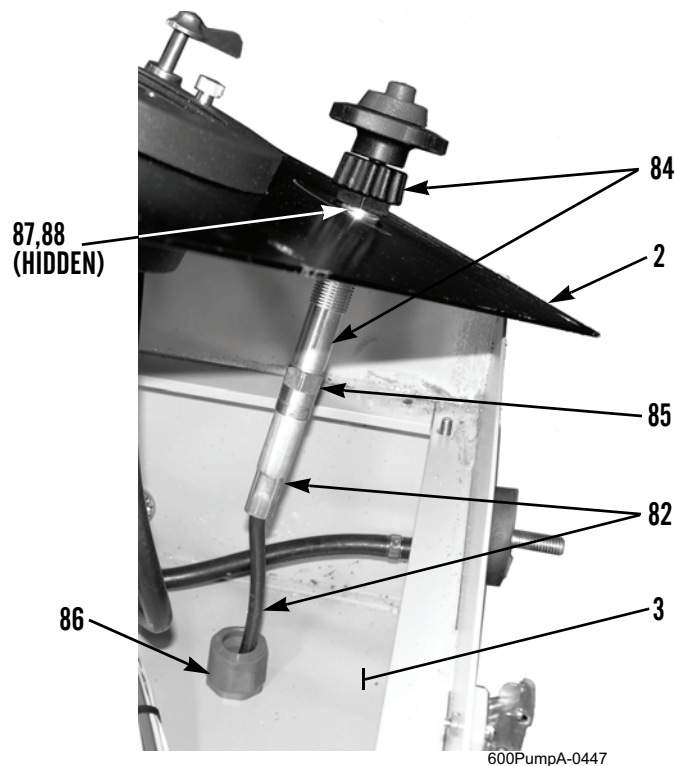

Figure 26. Throttle Control Assembly.
2. While holding throttle control (Figure 26, Item 84) with a wrench, loosen nut (Figure 26, Item 85) and disconnect throttle control cable (Figure 26, Item 82) from throttle control.
3. Pull throttle control cable (Figure 26, Item 82) from control panel box (Figure 26, Item 3).
4. Remove nut (Figure 26, Item 87), lockwasher (Figure 26, Item 88), and throttle control (Figure 26, Item 84) from panel (Figure 26, Item 2). Discard lockwasher.
5. If damaged, remove grommet (Figure 26, Item 86) from control panel box (Figure 26, Item 3).
1. If removed, install grommet (Figure 26, Item 86) on control panel box (Figure 26, Item 3).
2. Install throttle control (Figure 26, Item 84) on panel (Figure 26, Item 2) with new lockwasher (Figure 26, Item 88) and nut (Figure 26, Item 87).
3. Feed throttle control cable (Figure 26, Item 82) through grommet (Figure 26, Item 86) and control panel box (Figure 26, Item 3).
4. Connect throttle control cable (Figure 26, Item 82) to throttle control (Figure 26, Item 84). While holding throttle control, tighten nut (Figure 26, Item 85).